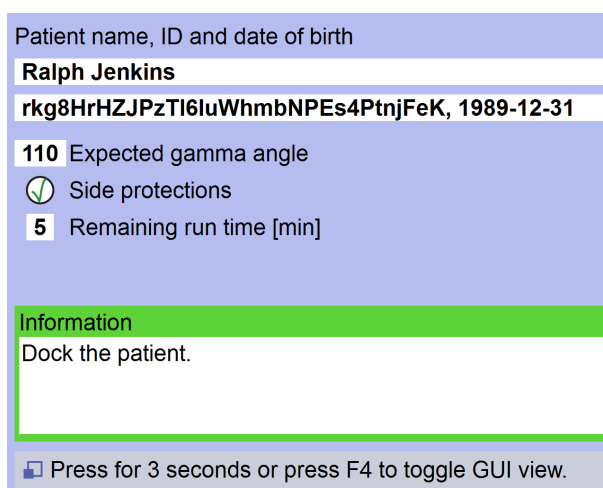
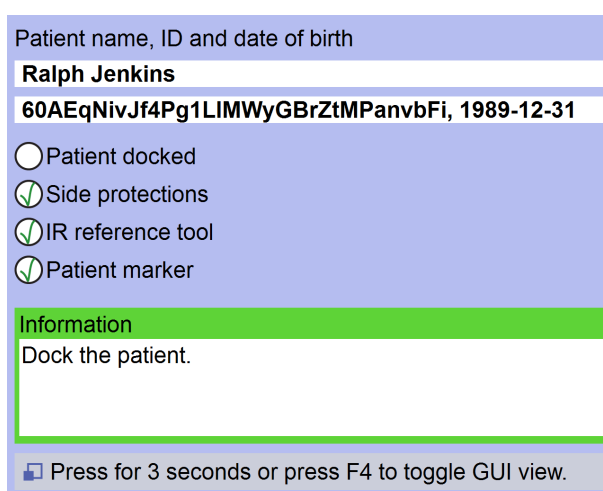

Figure 5.79 The enlarged GUI view during docking with coordinate frame G
Figure 5.80 The enlarged GUI view during docking with Vantage head frame
- The interlocks for patient docking and side protection panels. This information vary depending on the used immobilization device, see Figure 5.79 and Figure 5.80.